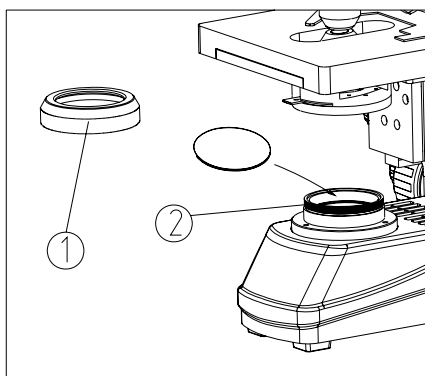

Fig. 17
Screw off the condenser cover① from condenser base②, and put the filter into the groove of condenser base②, and then screw on the condenser cover① (see Fig. 17).